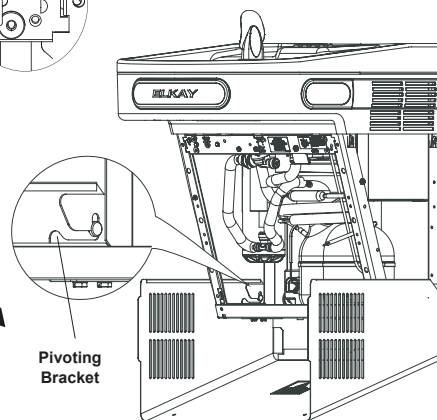

Fig. 6
3. When re-attaching wrapper, ensure each side of wrapper is engaged to pivoting bracket (see Fig. 6).